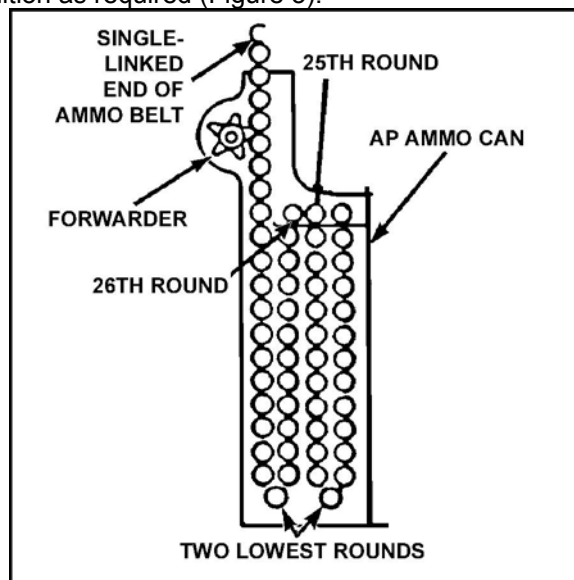

Figure 5. Rounds in forwarder.
6. Load or reload ammunition as required (Figure 5).